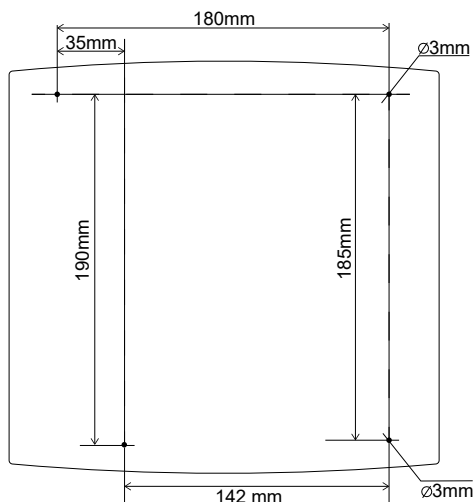

Figure 3-5: Wiring centre fixing centres
1. Drill and fit 2 mounting points for the mounting holes provided on the upper Section of the back of the wiring centre. (See Figure 3-5).
3. Remove wiring centre lower front cover (via 2 screws) and mark position of lower 2 holes. (See Figure 3-5)